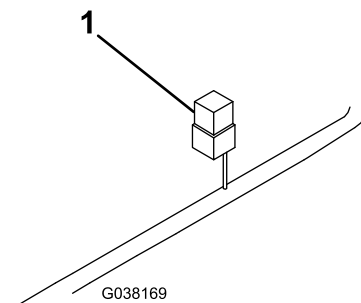

Figure 12
14. Mount the relay pack under the hood using 1 sheet-metal screw (Figure 12).